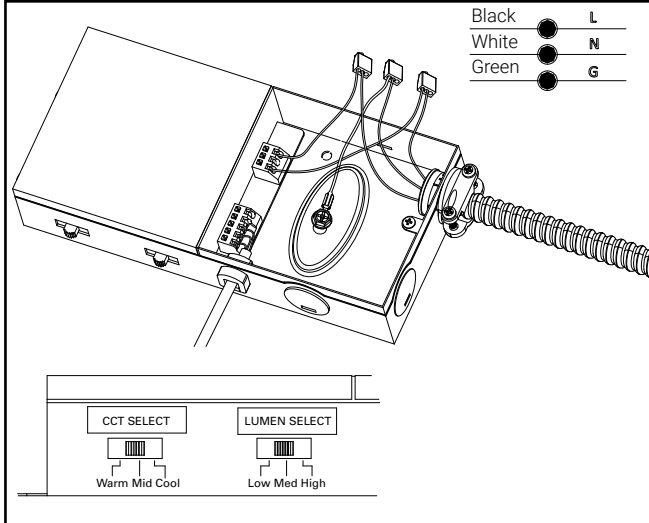

Figure 2.
3. Unscrew the power supply screw and connect the mains power to the power supply in order of green to ground, white to neutral, and black to hot. Desired lumens and color temperature can be selected by adjusting the switches on the driver box. See Figure 2.